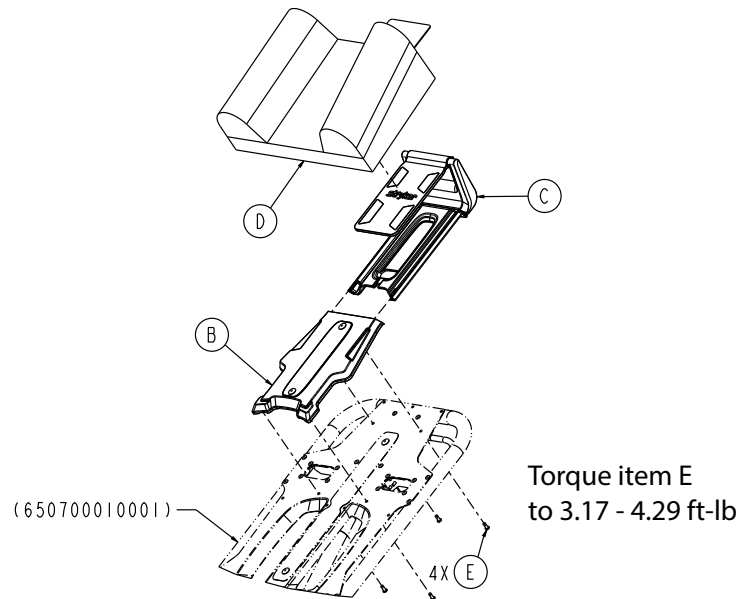

Figure 105 – Head extension option components
7. Using a T25 Torx driver, remove the four button head cap screws (E) that secure the head extension mounting body (B) and head extension assembly (C) to the head section skin (Figure 105). Save the screws. Discard the head extension assembly.